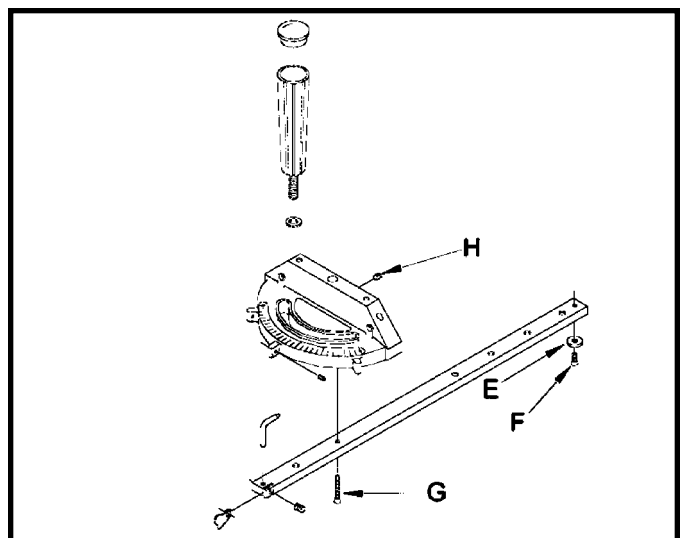

Fig. 67
The miter gage is equipped with a special washer (E) Fig. 67, and flat head screw (F), which are to be assembled to the end of the miter gage bar.
The head of the miter gage pivots on a special tapered screw (G) that fastens the head to the miter gage bar. If the miter gage head does not pivot freely, or pivots too freely, it can be adjusted by loosening set screw (H) Fig. 67, and turning the screw (G), in or out. Be certain to tighten screw (H) after adjustment is made.